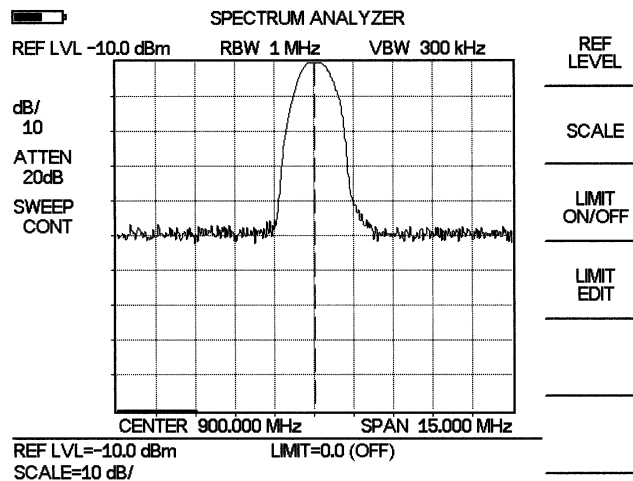

Figure 4-14. Reference level at -10 dBm
- Step 3.** Press **ENTER**. Observe the display (Figure 4-14).